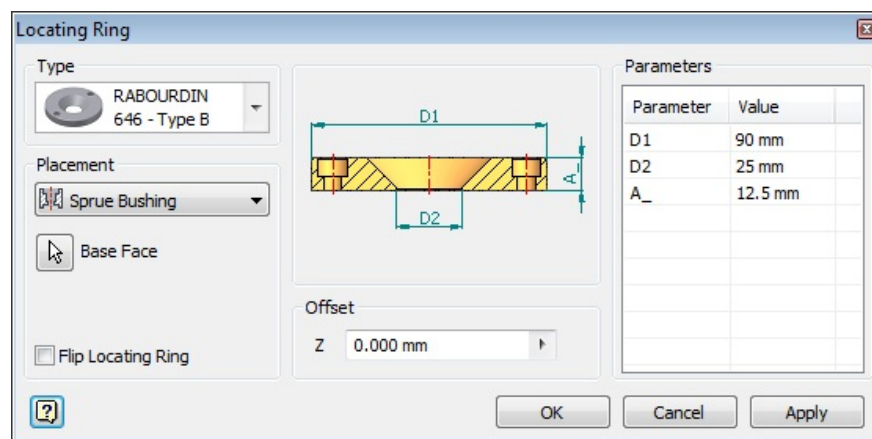

Figure 19-89 The Locating Ring dialog box
1. Choose the **Locating Ring** tool from the **Mold Assembly** panel in the **Mold Assembly** tab of the **Ribbon**; the **Locating Ring** dialog box is displayed, as shown in Figure 19-89.